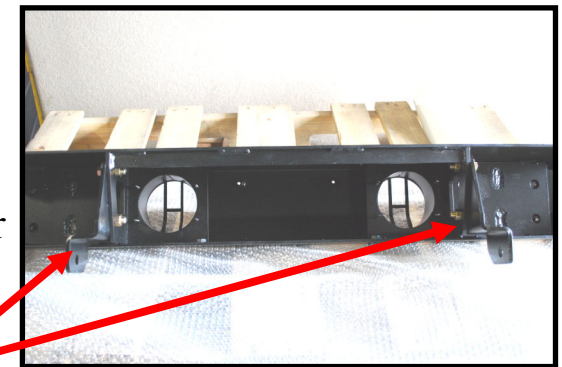

Figure 4
Step 7 – Install Mounting Brackets using supplied 7/16-20 Grade 8 Bolts Lock Washers, Flat Washers, & Nuts. (See Figure 4, 5 & Supplement Diagram 1 on Page 5) These figures are shown with the bumper off the vehicle, however you should have the bumper installed on vehicle prior to assembling brackets. 2012 and newer Jeep models will require you to use the unique bracket with weldnuts on the driver side only in place of the other bracket.